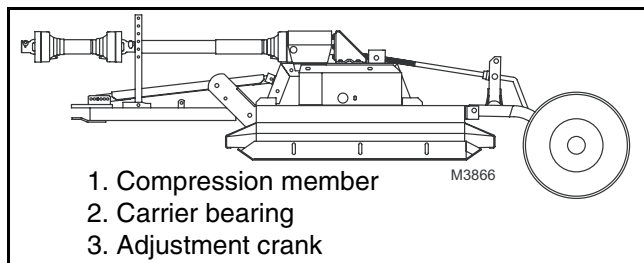

Figure 6. Cutting Height Adjustment - D80
Adjust drive shaft carrier bearing (2), Figure 6, vertically in H-frame until driveline is as straight as possible between tractor PTO and cutter gearbox.
Cutting Height Adjustment for D80 Pull-Type Cutter (Figure 6)